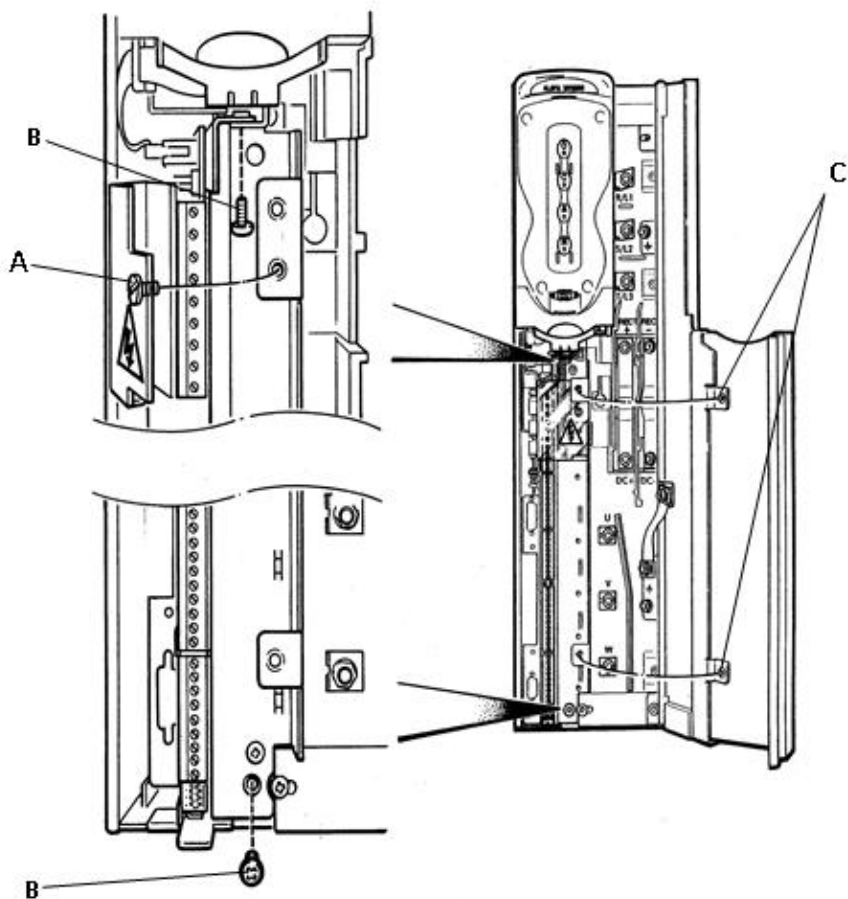

Figure 3-1. – Drive Module – access & release the control board
- a) Refer to Figure 3-1 and fully open the drive doors as follows:
- ii) Open the right hand door by releasing the two screws (C).
- b) Release the screw (A) securing the plastic terminal shroud. Remove and retain the two screws and washers (B) securing the control board to the drive chassis.